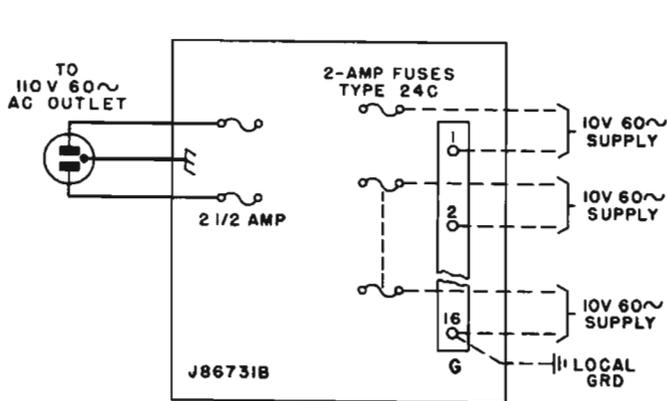

Fig. 4 - J86731B 101G Power Plant
5.05 Fig. 4 gives the connections for the J86731B, List 1 power plant.